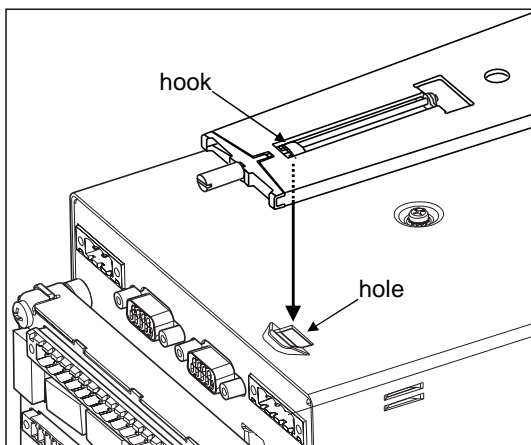

figure 3-2
4. Attach hook of the mounting bracket to the hold on the housing (figure 3-2)